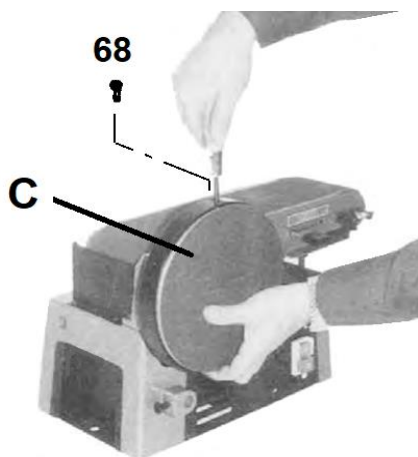

Figure 6-3: Mounting sanding disc plate
Push the sanding disc plate (C, Fig. 6-3) onto the shaft until the surface of the plate is almost flush with the shaft end. The shaft end may not extend into the sanding surface. Secure the plate with screw (68).